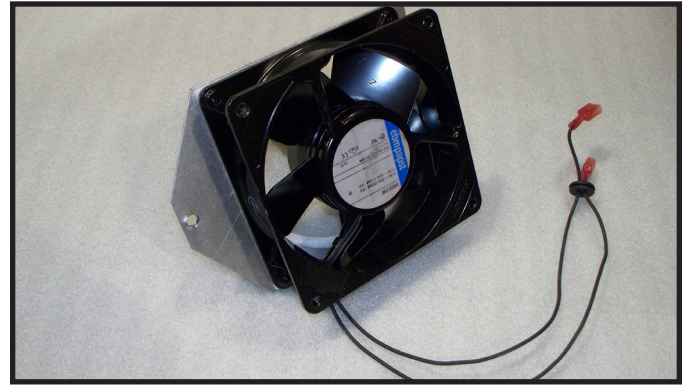

Figure 12.13 Removed Mounting Plate
- Attach new blower to mounting plate by fastening the four screws in the appropriate locations. The side of the blower with the label on it must face toward the inside of the appliance. This is the direction of the air flow. See Figure 12.13.